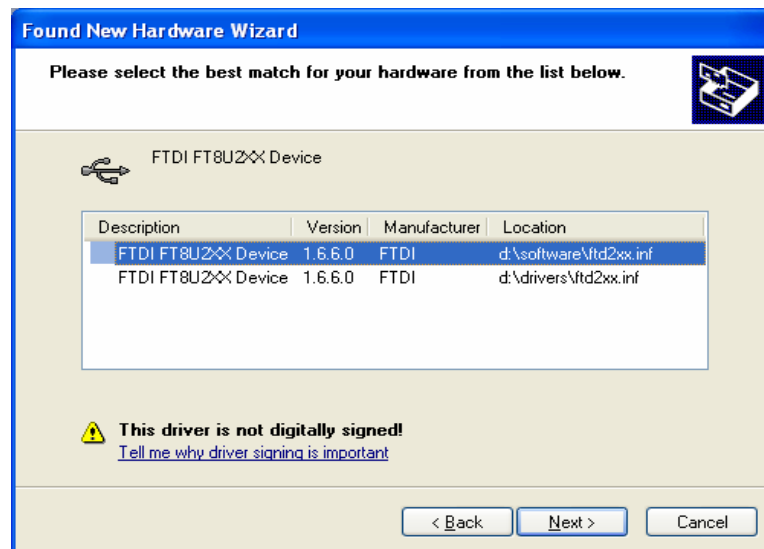

Figure 7
2. Select **FTDI FT8U2XX Device** and click **Next** (Figure 7).